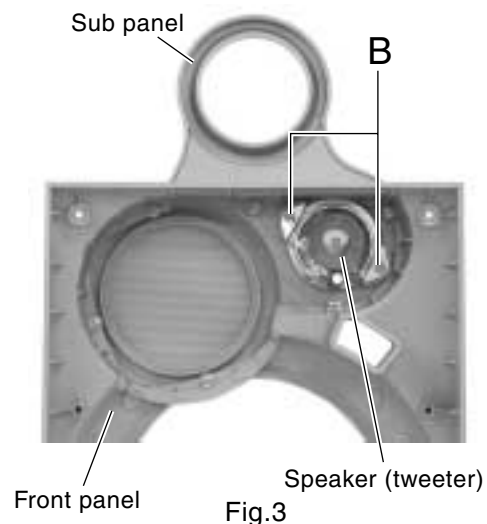

Fig.3
■ Removing the speaker (tweeter) (See Fig.3)